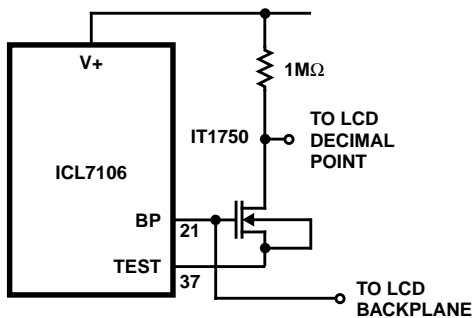
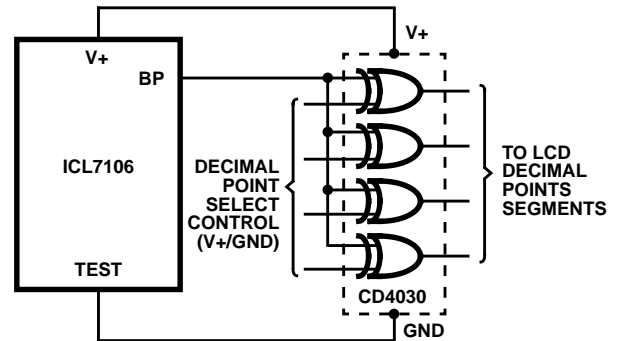

FIGURE 4. SIMPLE INVERTER FOR FIXED DECIMAL POINT
FIGURE 5. EXCLUSIVE 'OR' GATE FOR DECIMAL POINT DRIVE
Liquid crystal displays are generally driven by applying a symmetrical square wave to the Back Plane (BP). To turn on a segment, a waveform 180° out of phase with BP (but of equal amplitude) is applied to that segment. Note that excessive DC voltages (>50mV) will permanently damage the display if applied for more than a few minutes. The ICL7106 generates the segment drive waveform internally, but the user should generate the decimal point front plane drive by inverting the BP (pin 21) output (Note 1). In applications where the decimal point remains fixed, a simple MOS inverter can be used (Figure 4). For instruments where the decimal point must be shifted, a quad exclusive OR gate is recommended (Figure 5). Note that in both instances, TEST (pin 37, TP1) is used as V⁻ for the inverters. This pin is capable of sinking about 1mA, and is approximately 5V below V⁺. The BP output (pin 21) oscillates between V⁺ and TEST.